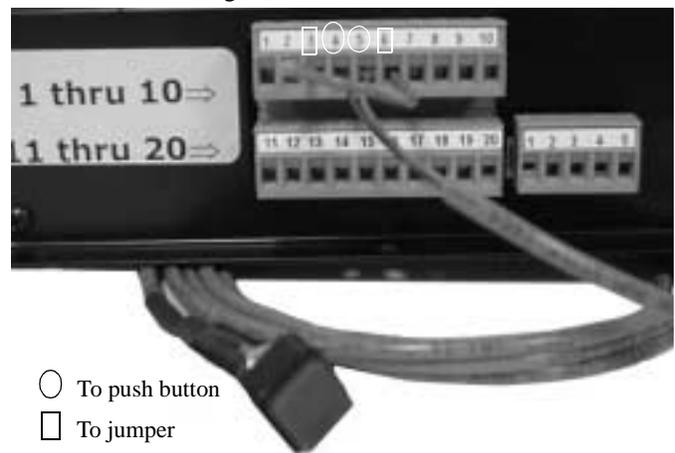

Figure 12. Test Wiring
2. Connect a jumper wire between terminal #3 and terminal #6 (see Figure 12).